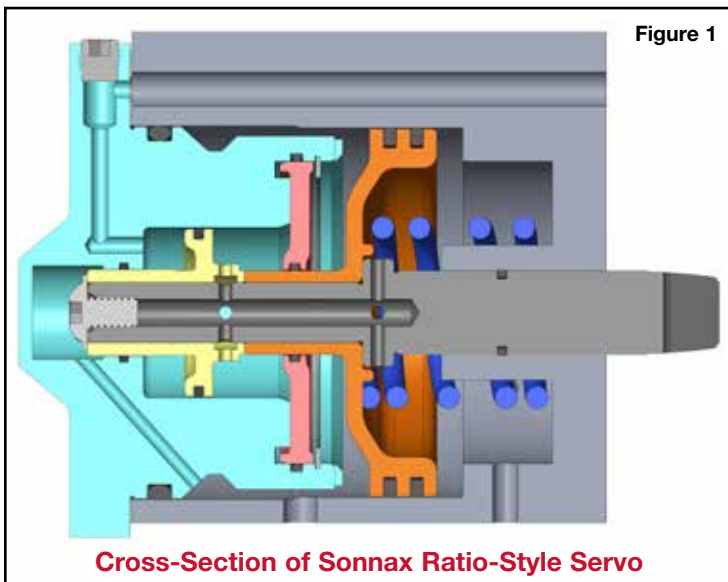

Figure 1
- Servo Pin Seals (2) PTFE, 1 Extra
- Primary Piston Seals (2) PTFE
- Cover Bolts (3)
**NOTE:** See page 2 for ratio-style servo components cross-section and exploded-view illustrations (**Figures 1 & 2**).